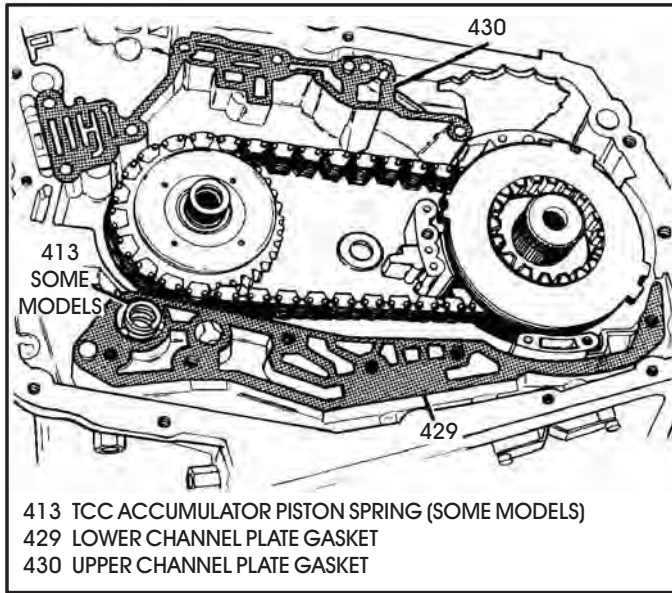

Figure 193
60. Install upper and lower channel plate gaskets onto case, as shown in Figure 193, and retain with small amount of Trans-Jel®.
61. Install the TCC accumulator spring into case, as shown in Figure 193, if your model uses the TCC accumulator piston in the channel plate.